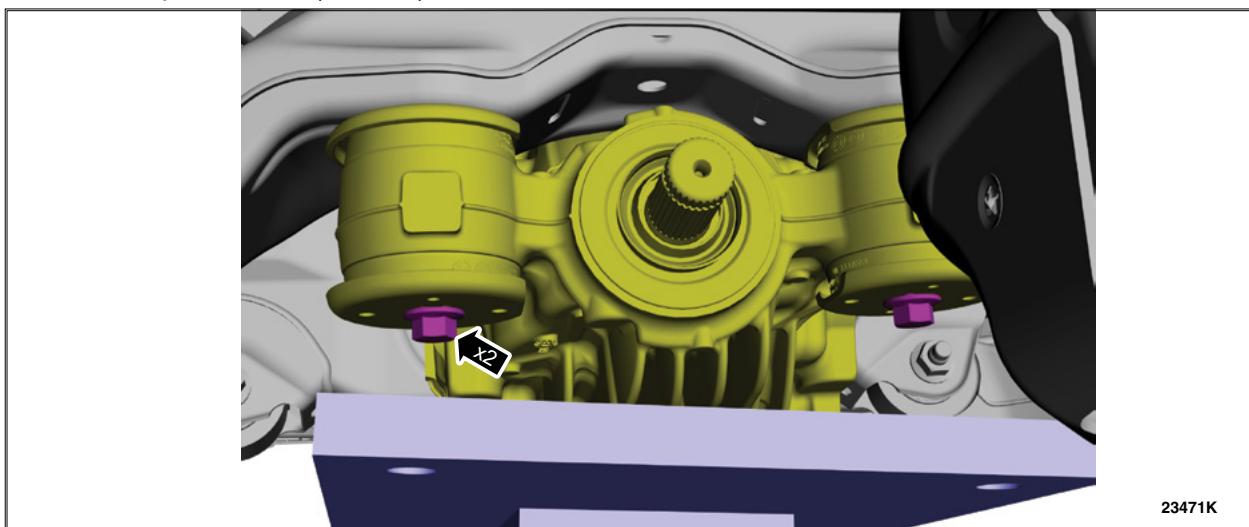

FIGURE 10
17. Remove the rear axle housing support front bolts. See Figure 10.